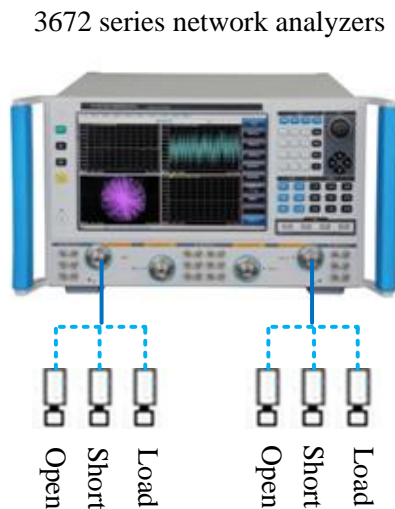

Fig. 11.11 Block Diagram I of Connection of Full Double-port Calibration
- 1) As shown in Fig. 11.11, connect the system and preheat is for 60min at least.